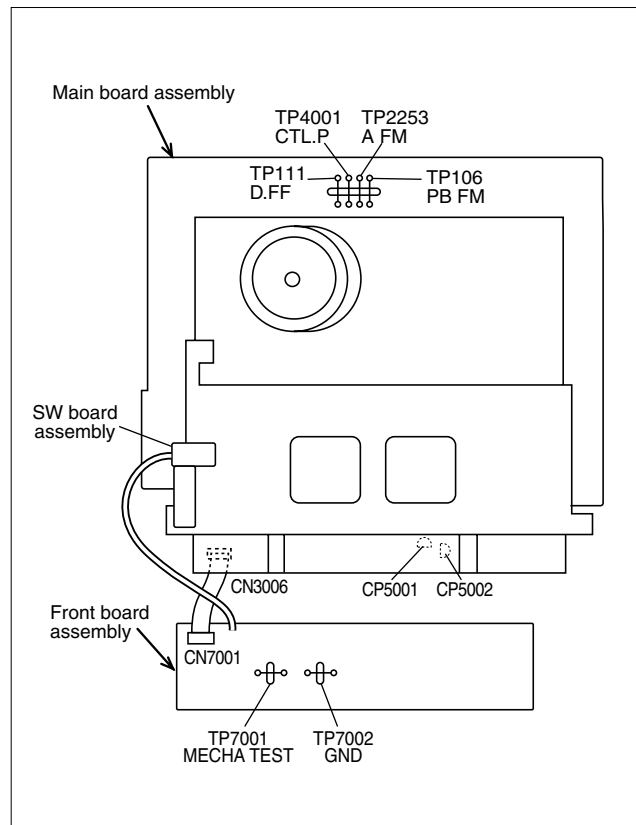

Fig. 1-4-1a
- (1) Refer to the disassembly procedure and perform disassembly of the major parts before removing the Cassette housing assembly.
- (2) Remove the combined Cassette housing, Mechanism and Main board assemblies.
- (3) Connect the wires and connectors of the major parts that have been removed in step (1). (Refer to Fig. 1-4-1a.)
- (4) Place the combined Mechanism and Main board assemblies upside down.
- (5) Insert the power cord plug into the power outlet and then proceed with the diagnostics and servicing of the board assembly.